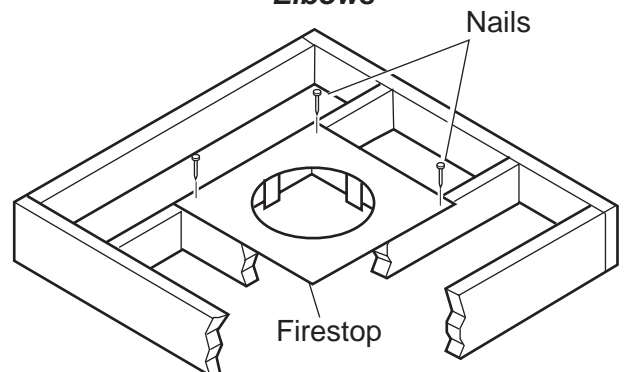
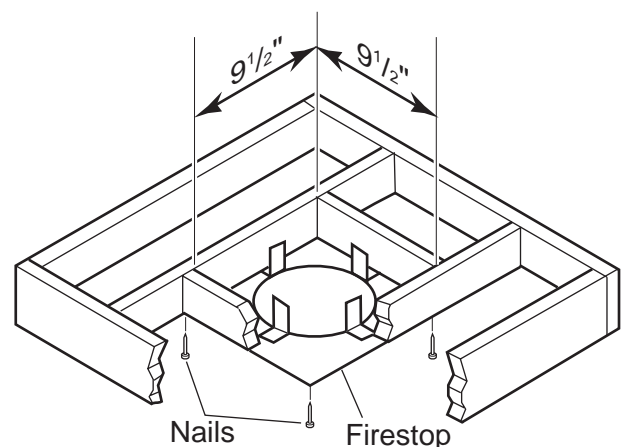

Figure 31 - If Area Above is a Room, Install Firestop above Framed Hole as Shown
Figure 32 - If Area Above is Not a Room, Install Firestop below Framed Hole as Shown
1. Cut a 9 $\frac{1}{2}$ " (241 mm) square hole in the ceiling using the locating hole as a center point. The opening should be framed to 9 $\frac{1}{2}$ " x 9 $\frac{1}{2}$ " (241 mm x 241 mm) inside dimensions as shown in *Figure 32* using framing lumber the same size as the ceiling joist. If the area above the ceiling is an insulated ceiling or a room, nail firestop from the top side. This prevents loose insulation from falling into the required clearance space. See *Figure 31*. Otherwise, install firestop below the framed hole. See *Figure 32*.
2. Cut the hole 1/8" larger than the support box outline. See Figure 32.
3. Lower the support box through the hole in the roof until the bottom of the box extends at least 2" below the ceiling. See Figure 32. Align the support box vertically and horizontally using a level. Temporarily tack the support box in place through the inside walls and into the roof sheathing.